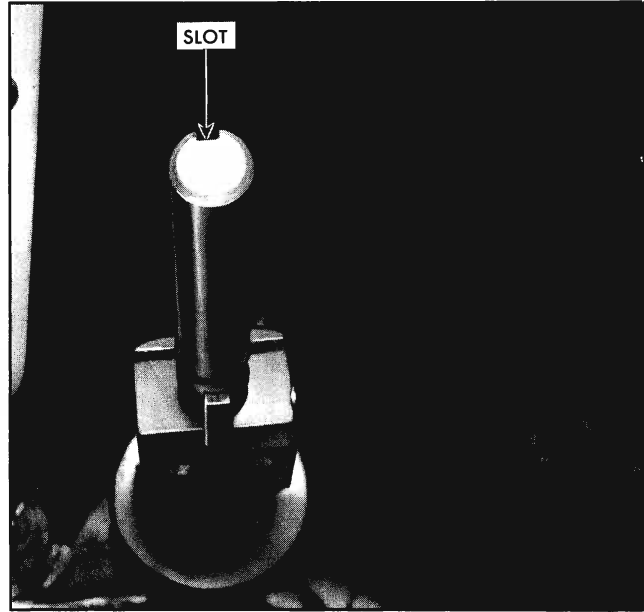
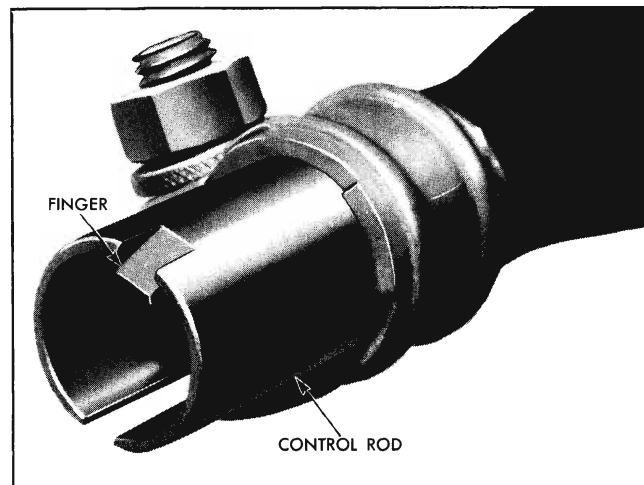

Fig. 7-9 Control Rod Coupling Slot
Fig. 7-10 Control Rod Coupling Finger
NOTE: Slot in control rod coupling should be in up position (Fig. 7-9).
4. Slide control rod on control rod coupling, with control rod finger (Fig. 7-10) in coupling slot (Fig. 7-9).